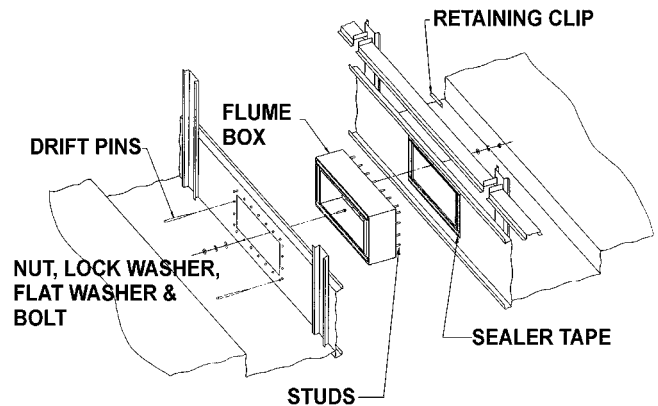

Figure 3 - Flume Assembly.
2. Mating flanges which will make contact with others should be cleaned to remove dirt, grease and moisture. Apply a layer of sealer tape on one side panel centered over the flume box holes as shown in Figure 3. Remove paper backing strip from the sealer tape.
6. Align the bolt holes in the equalizer flume and equalizer opening with drift pins while drawing the second bottom section against the first as shown in Figure 3.
10. Place the drip channel assembly over the adjoining pan section flanges. Turn around the retaining clips and re-install using the same hardware. See Figures 3 and 4.